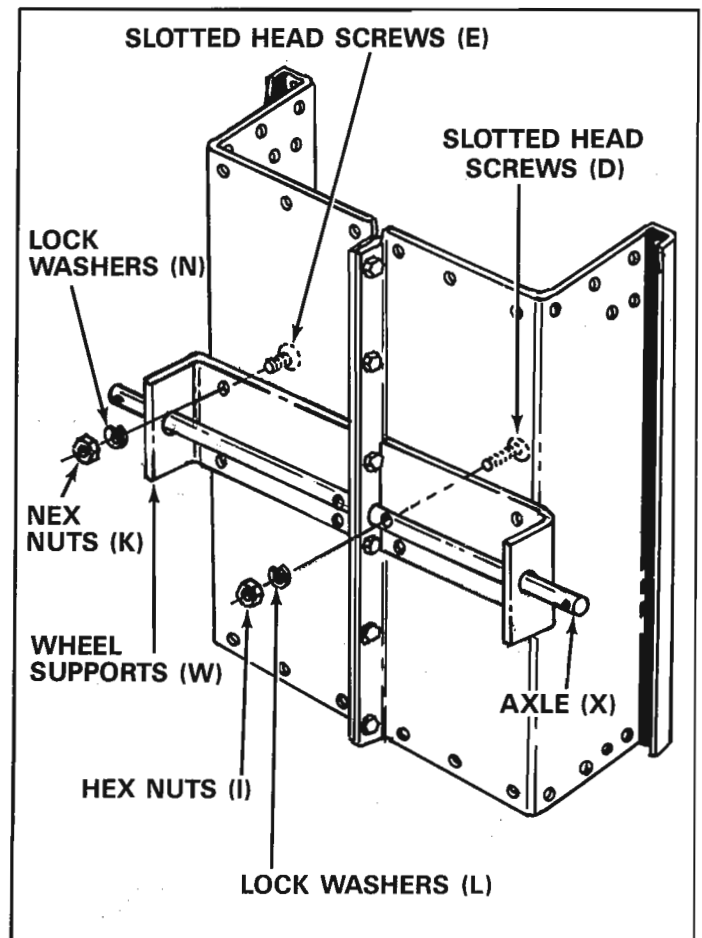

FIGURE 4
5. Position the wheel supports (W) in place on the bottom of cart. See figure 4.
6. Secure wheel support to cart with four slotted head screws (E), lock washers (N) and hex nuts (K). See figure 4. Heads of screws go to the inside of cart.
7. Place the axle (X) through wheel supports and secure with two slotted heads screws (D), lock washers (L) and hex nuts (I). See figure 4.